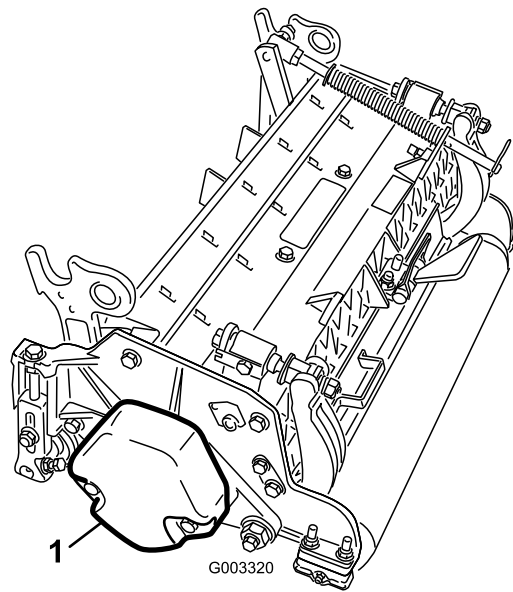

**Figure 8**
8. Screw the bolt into the other arm of hood-lock bracket to lock the latch in position (Figure 8).